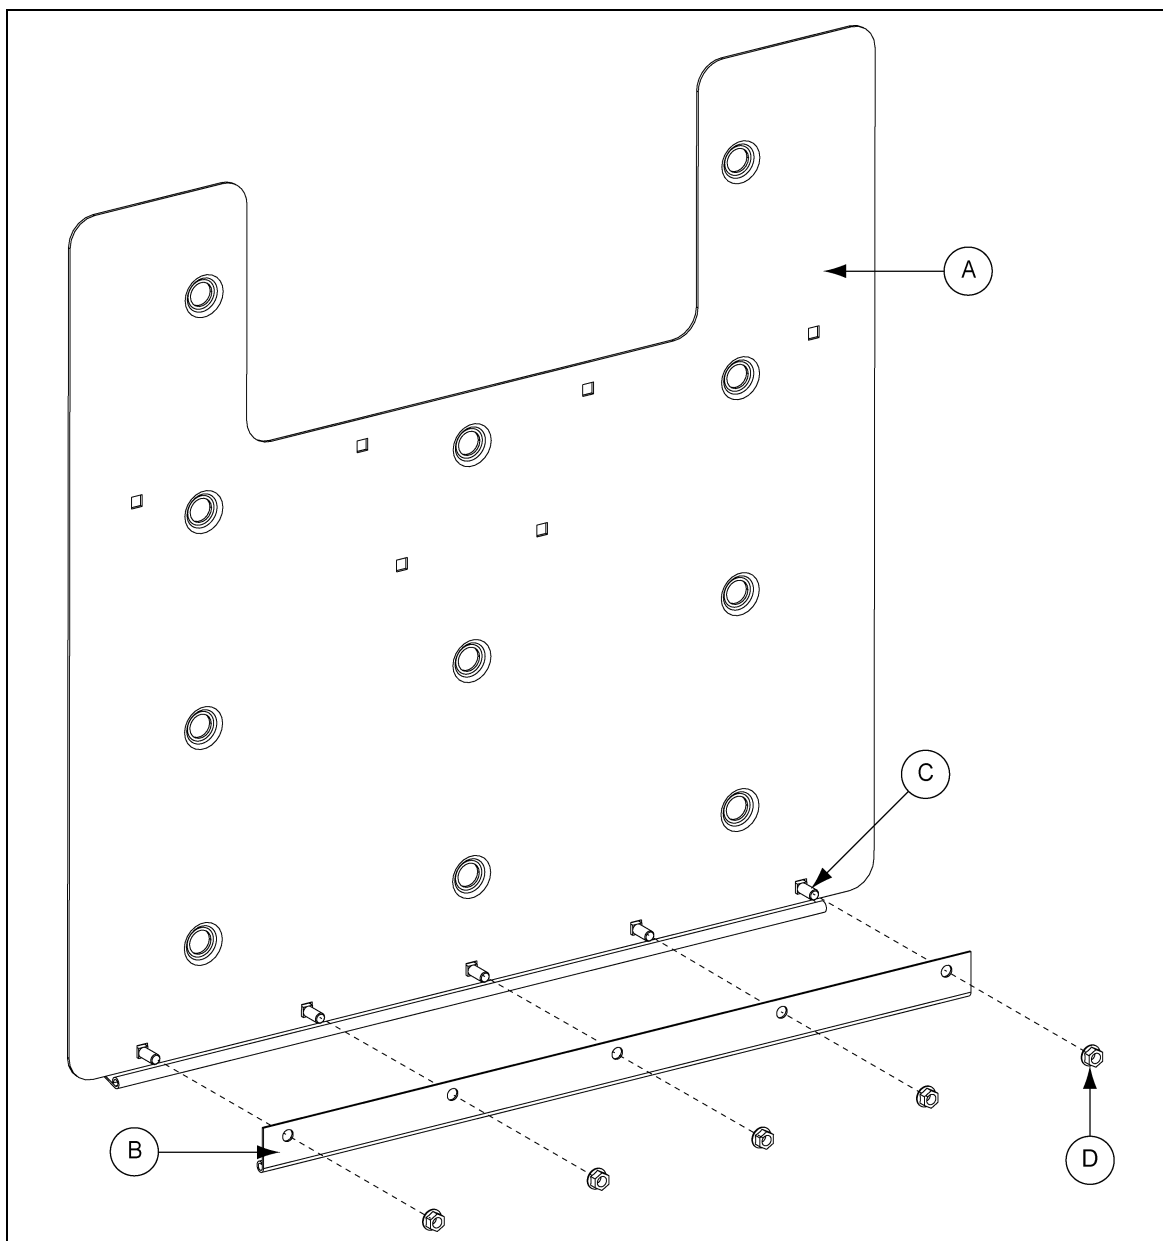

Figure 9A
1. Attach hatch hinge (HP1624HH) to the hatch deck door (HP1624HDD). Orient hinge so that it opens the desired direction. (See Figure 9A.) Fasten using 3/8" x 1" carriage bolts hardware.